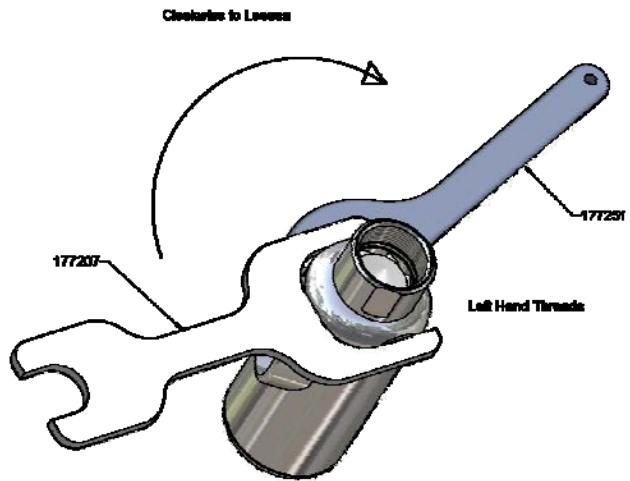

Figure 9
2. Remove position 1 by rotating clockwise while holding inlet ring; position 12.4 using spanner wrenches as shown in Figure 26 and Figure 30. Also see Figure 9.